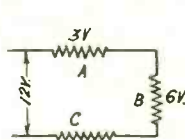

FIG. 4
Thus the sum of the IR drops in the resistors (A), (B) and (C) of Fig. 4 must be equal to the applied electromotive force of 12 volts.